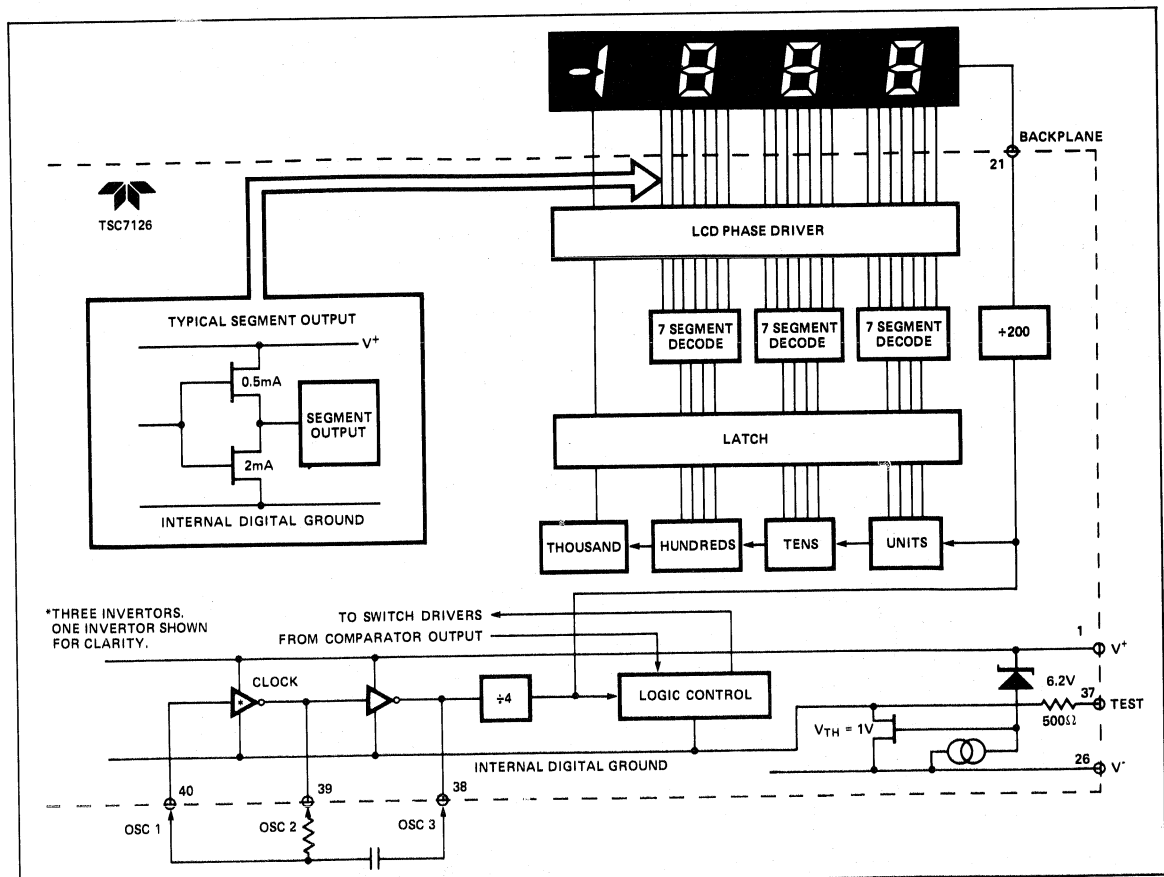

Figure 8: Digital Section
Figure 8 shows the digital section for the 7126. An internal digital ground is generated from a 6 volt Zener diode and a large P channel source follower. This supply is made stiff to absorb the relative large capacitive currents when the backplane (BP) voltage is switched. The BP frequency is the clock frequency divided by 800. For three readings/second this is a 60 Hz square wave with a nominal amplitude of 5 volts. The segments are driven at the same frequency and amplitude and are in phase with